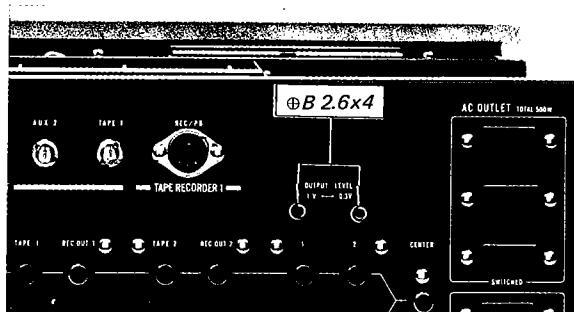

Fig. 2-8. Rear view
2. Remove the two screws (\oplus B 2.6x4) securing the OUTPUT LEVEL changeover switch to the rear panel as shown in Fig. 2-8.